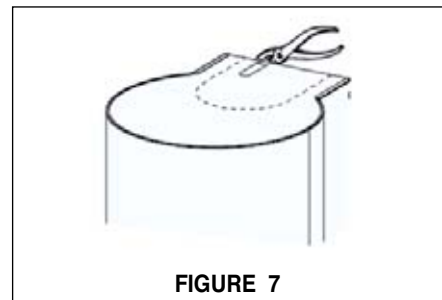

FIGURE 7
1. If ducting out of the top of the hood, carefully remove the pre cut metal piece at the top of the hood body (FIGURE 7).
2. Remove the pre cut piece at the top of the hood body (**FIGURE 7**). Using 4 screws (**D in FIGURE 8**), to attach the hood body to the support frame on the wall, cover screws with (**E screw covers in FIGURE 8**).